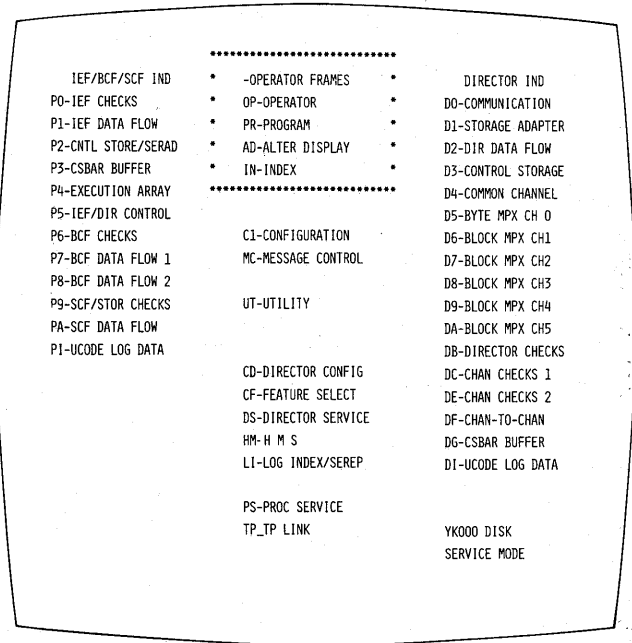

Figure 4-5. Index (IN) Frame at the Service Station
The operator display frames are requested by the operator as needed, using the index (IN) display frame (Figure 4-5). The frames listed on the IN frame depend on the station (operator or service) and its mode of operation (see "Console Reconfiguration" in this chapter). In addition to the IN frame, the operator display frames include: